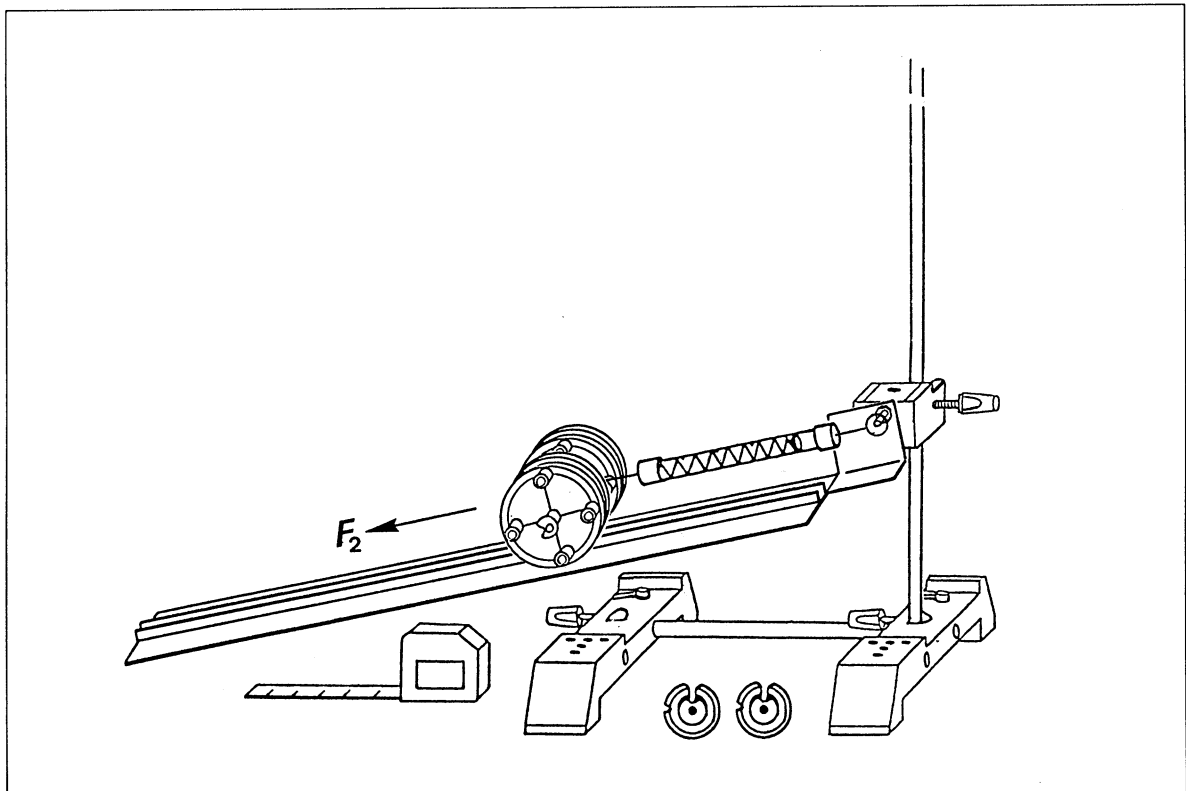

Fig. 1 Inclined plane: Measuring the tractive force F_2
1. Set up the apparatus as shown in fig. 1.